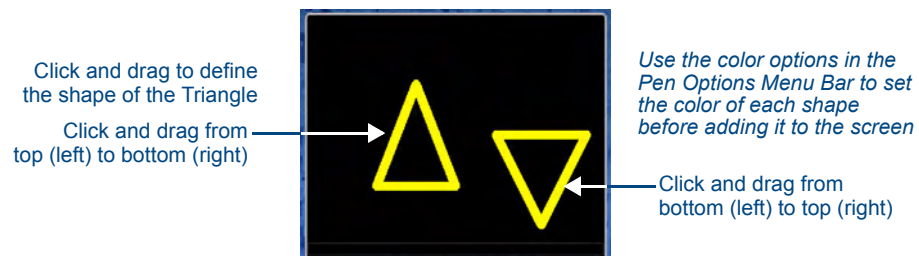

FIG. 109 Drawing Triangles
- **Triangles** - The triangle tool draws isosceles triangles, with a straight line at the bottom relative to the cursor position (FIG. 109):